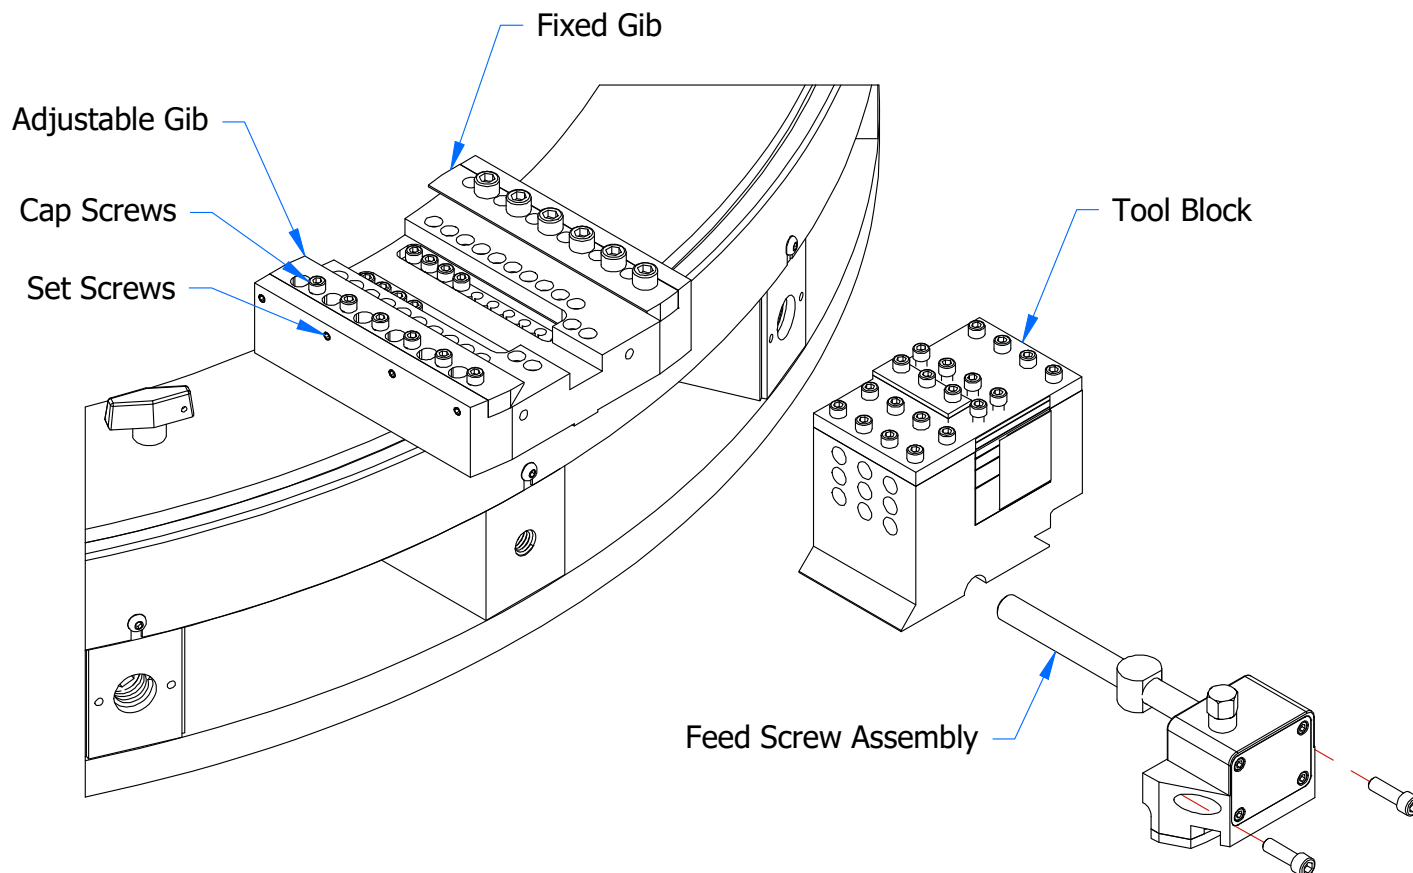

Figure 3-1 - Remove Feed Screw and Tool Block
1. Remove the two screws which hold the feed screw assembly to the slide. Pull the tool block and feed screw assembly out of the slide. See Figure 3-1.
3. Remove the tool block from the slide. Reassemble the feed screw assembly with the tool block and return it to the slide; the reverse of removing it as seen in fig. 3-1. Use a 5/8 hex socket to move the tool block with the starwheel knob to check that the slide adjustment is smooth.